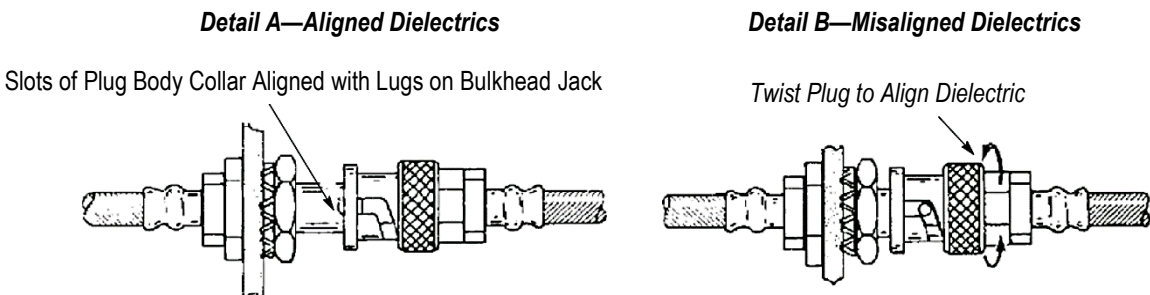

Figure 7
1. Align the slots in the plug body collar with the lugs on the bulkhead jack. See Figure 7, Detail A.
3. As the dielectrics come into alignment, slide the plug collar over the bulkhead jack lugs and into the locked position. For some connectors, the dielectrics will properly align and permit the collar to slide over the lugs. For connectors with misaligned dielectrics, grasp the rear of the plug over the flats and twist the plug while applying slight pressure. See Figure 7, Detail B. As the dielectric aligns, the collar will be allowed to slide over the lugs and into the locked position.